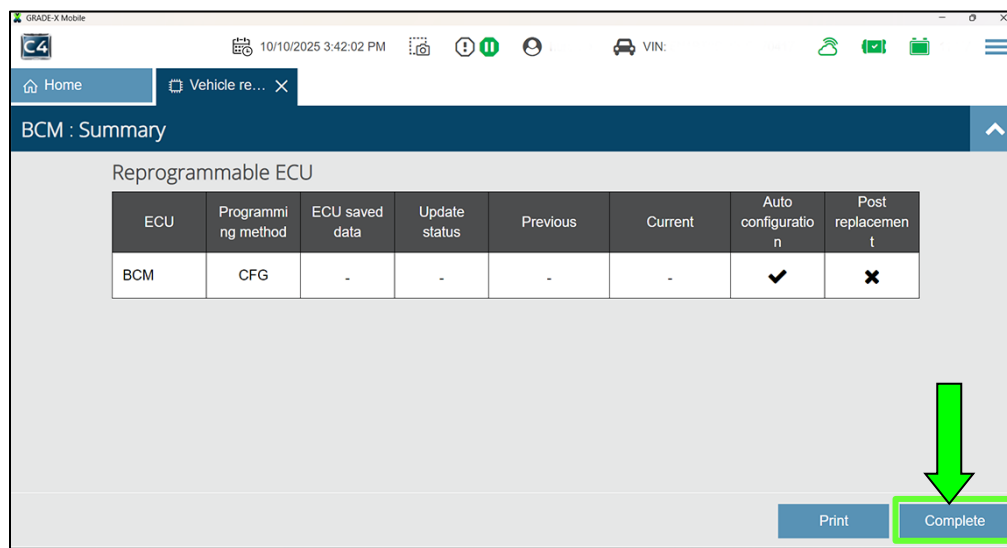

Figure 16
20. Once the screen shown in Figure 16 is displayed, select **Complete**.